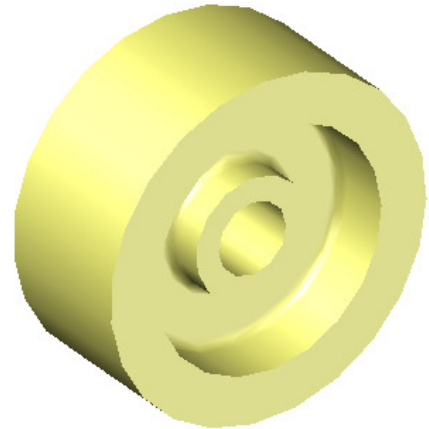

Figure Step 3A
Step 3 On layer: Solid Wheel, create a solid model of the Wheel. (Figure Step 3A and 3B)